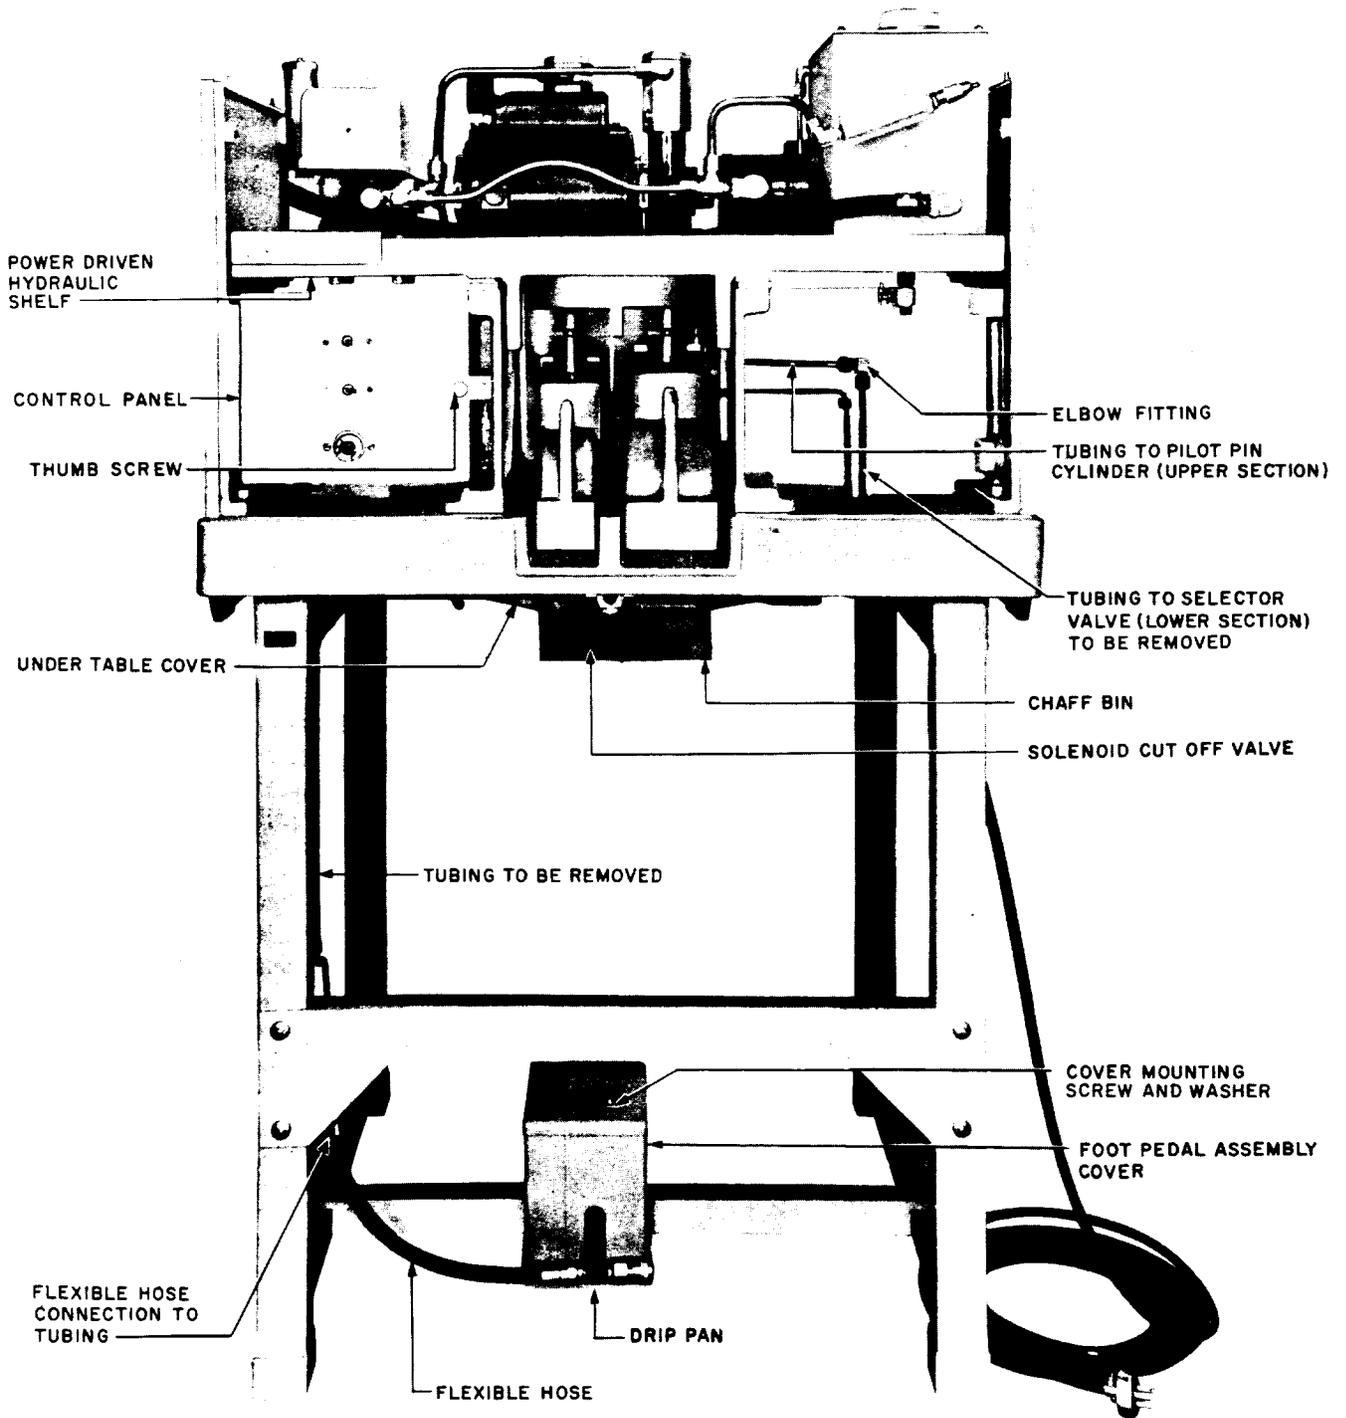

Fig. 2 - 659A and 659D Tools (rear view — covers removed)
4.01 Remove the drip pan from the foot-pedal assembly cover (Fig. 2) using the 3-inch C screwdriver. Then remove the cover using the R-2671 wrench.
4.02 Referring to Fig. 2 and 3, place a KS-14666 cloth below the flexible hose connection to the tubing clamped to the leg of the tool and place the drip pan below the hose connection to the hydraulic cylinder fitting to catch the oil that will drain from these parts when the hose connections are broken.
4.04 Removing Tubing: Referring to Fig. 2 and 4, remove the tubing which is entirely below the table and also the lower section of the tubing between the selector valve and the hole enlarging control unit pilot pin cylinder as follows.
(a) **Tubing Entirely Below Table:** Fig. 2 and 4 — To remove the tubing, hold the body of the fitting at one end of the tubing with the R-1542 wrench and unscrew the nut of the fitting with a second R-1542 wrench. Similarly break the connection at the other end of the tubing. Remove the tubing clamps using the R-2671 wrench and remove the tubing.
(b) **Tubing Between Selector Valve and Hole-Enlarging Control Unit Cylinder:** Fig. 2 and 4 — This tubing consists of two sections connected together by a compression-type elbow fitting at the rear of the tool above the table as shown in Fig. 2. Remove only the lower section as follows. Hold the body of the fitting at one end of the tubing with the R-1542 wrench and unscrew the nut of the fitting with a second R-1542 wrench. Similarly break the connection at the other end of the tubing. Remove the tubing clamps using the R-2671 wrench. Disengage the tubing from the fittings
4.05 Referring to Fig. 2, manually disengage the control panel thumbscrew and swing the panel outward. Using the 3-inch C screwdriver, remove the solenoid cut-off valve lead from terminal 9 on the control panel terminal strip. Tape the end of the lead. Close the panel and securely tighten the thumbscrew.